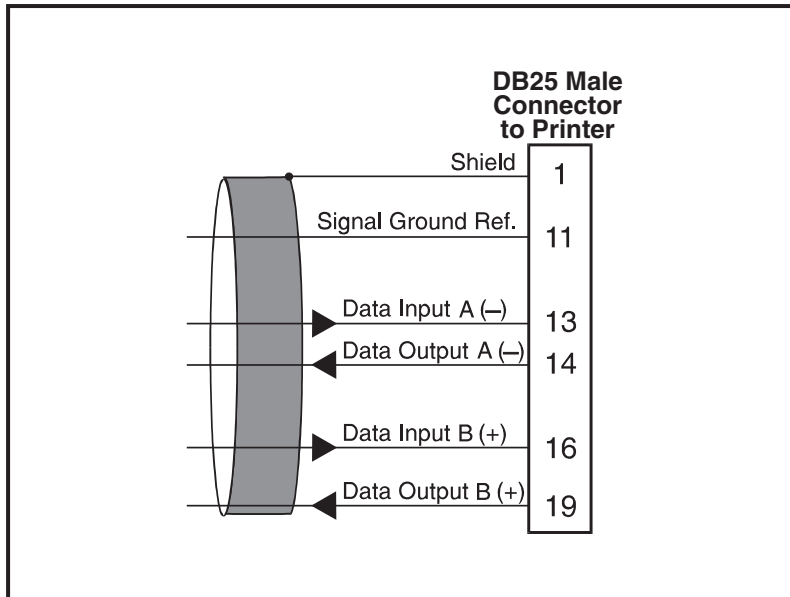
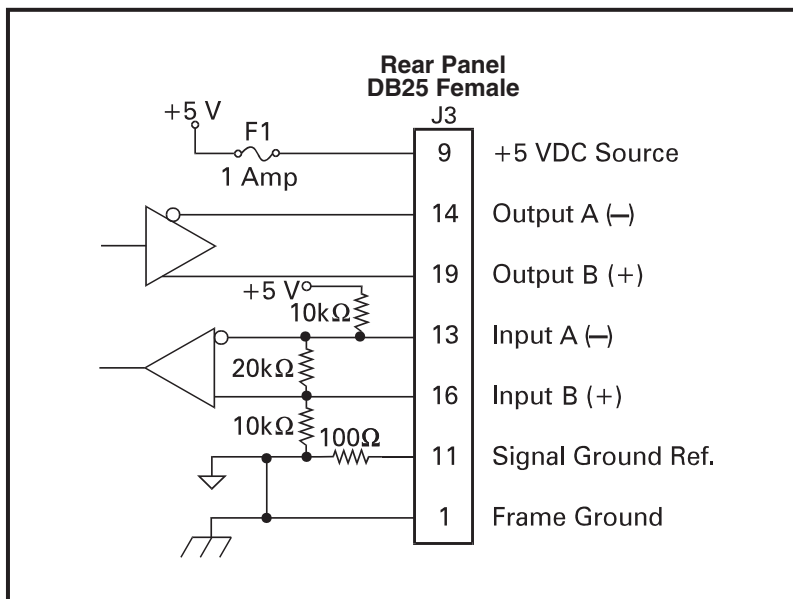

Figure 25. RS-422/RS-485 Interconnecting Cable
Figure 26. RS-422/RS-485 Connections
**RS-422/RS-485 Interconnections** — The printer may be connected to a host by a RS-422/RS-485 interface. The DB25 Female connector on the rear of the printer uses specific pins for this purpose. Figure 25 illustrates the required cable wiring for interconnecting to the printer's DB25 connector. Figure 26 illustrates the internal connections of the printer's RS-422/RS-485 connector.